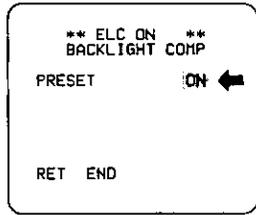

Fig. 56
- Move the cursor to the "PRESET" mode position and select the "ON" mode by using the Left Button (WHT) or Right Button (GAIN). The preset mode menu is displayed on the monitor screen as shown in Fig. 56.